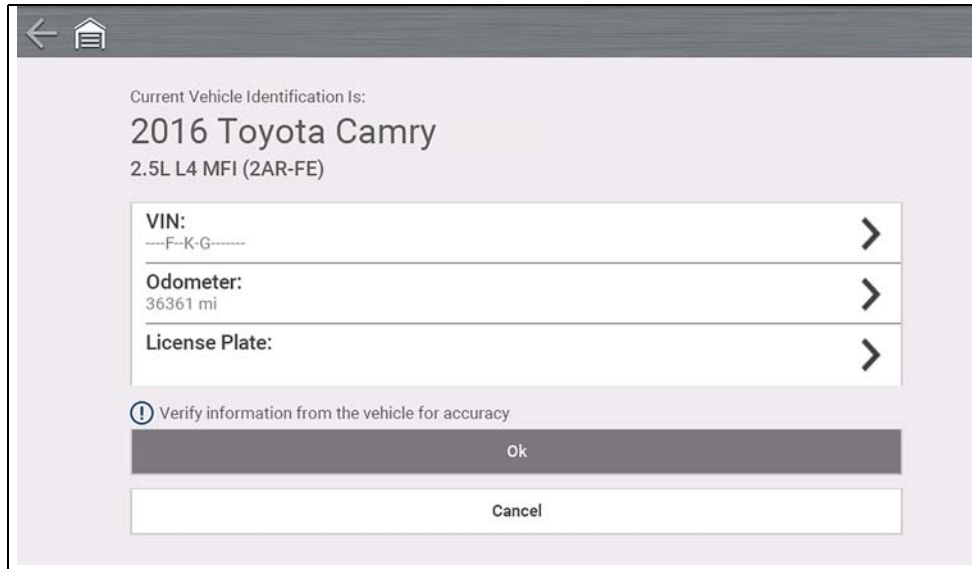

Figure 4-3
8. The vehicle identification confirmation screen displays (Figure 4-3), select **Ok** to continue.